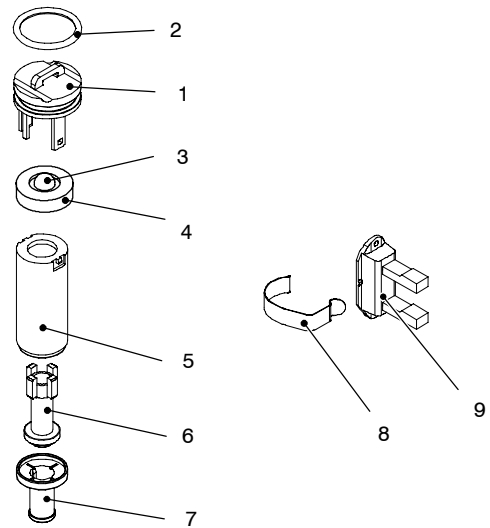

Fig. 14.3
When the flow rate through the d.h.w. circuit reaches about 2,5 litres/min', the float 6 (Fig. 14.3) is dragged upwards and the magnetic in it, getting closer to the sensor 9 closes the electric contact.
14.2 Description and location of parts (Fig. 14.3)
- 4 To remove the filter from the flow switch group separate the filter 7 from the body 5 (Fig. 14.3) by levering it.
- 3 Remove the threaded ring 4 (Fig. 14.3).